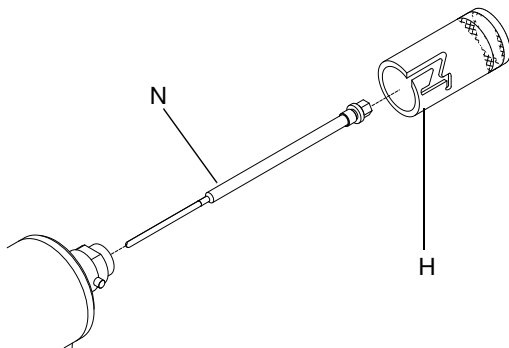

FIG. 19 Remove Valving Rod (GX-7A and GX-7 400 models)
7. Remove the end cap (EC) from the air cylinder.
8. Inspect the end cap (EC) o-ring. Replace if damaged. Install a new end cap o-ring after lightly coating it with Lubriplate grease.
9. Inspect the rear U-cup seal (RS) or o-ring for damage. Replace if necessary. If removed, ensure "cup" faces front of the air cylinder when replacing.
10. By hand, pull the piston assembly (PA) out of the air cylinder and inspect the o-ring for damage. Replace if necessary. Apply Lubriplate grease prior to installation.
11. If air was escaping around piston rod (K) during operation, replace the front u-cup seal (FS) or o-ring. Apply Lubriplate grease and ensure "cup" faces rear of the air cylinder.
12. Insert the piston and rod assembly (PA) into the air cylinder. Take care to not damage the front cup seal as rod passes through.
13. Insert the piston spring (PS). (For GX-7 DI models, also insert a piston spacer.)
14. Reinstall the end cap (EC) into the air cylinder.
15. Retighten the rear socket head cap screw (SH) and cylinder clamp (CC) to handle.
16. Reinstall the valving rod (N). Connect the valving rod (N) to the draw bar (DB), see FIG. 19, page 27. Lubricate and thread into the end cap (EC).
17. Adjust the valving rod (N); see **Adjust Valving Rod**, page 23.
18. Slide the safety lock (H) onto the rear of the air cylinder. Push the safety lock partially forward and rotate clockwise to set to OPEN.
19. Set the safety lock (H) to CLOSED (SERVICE).
20. Tighten the rear packing nut (E).